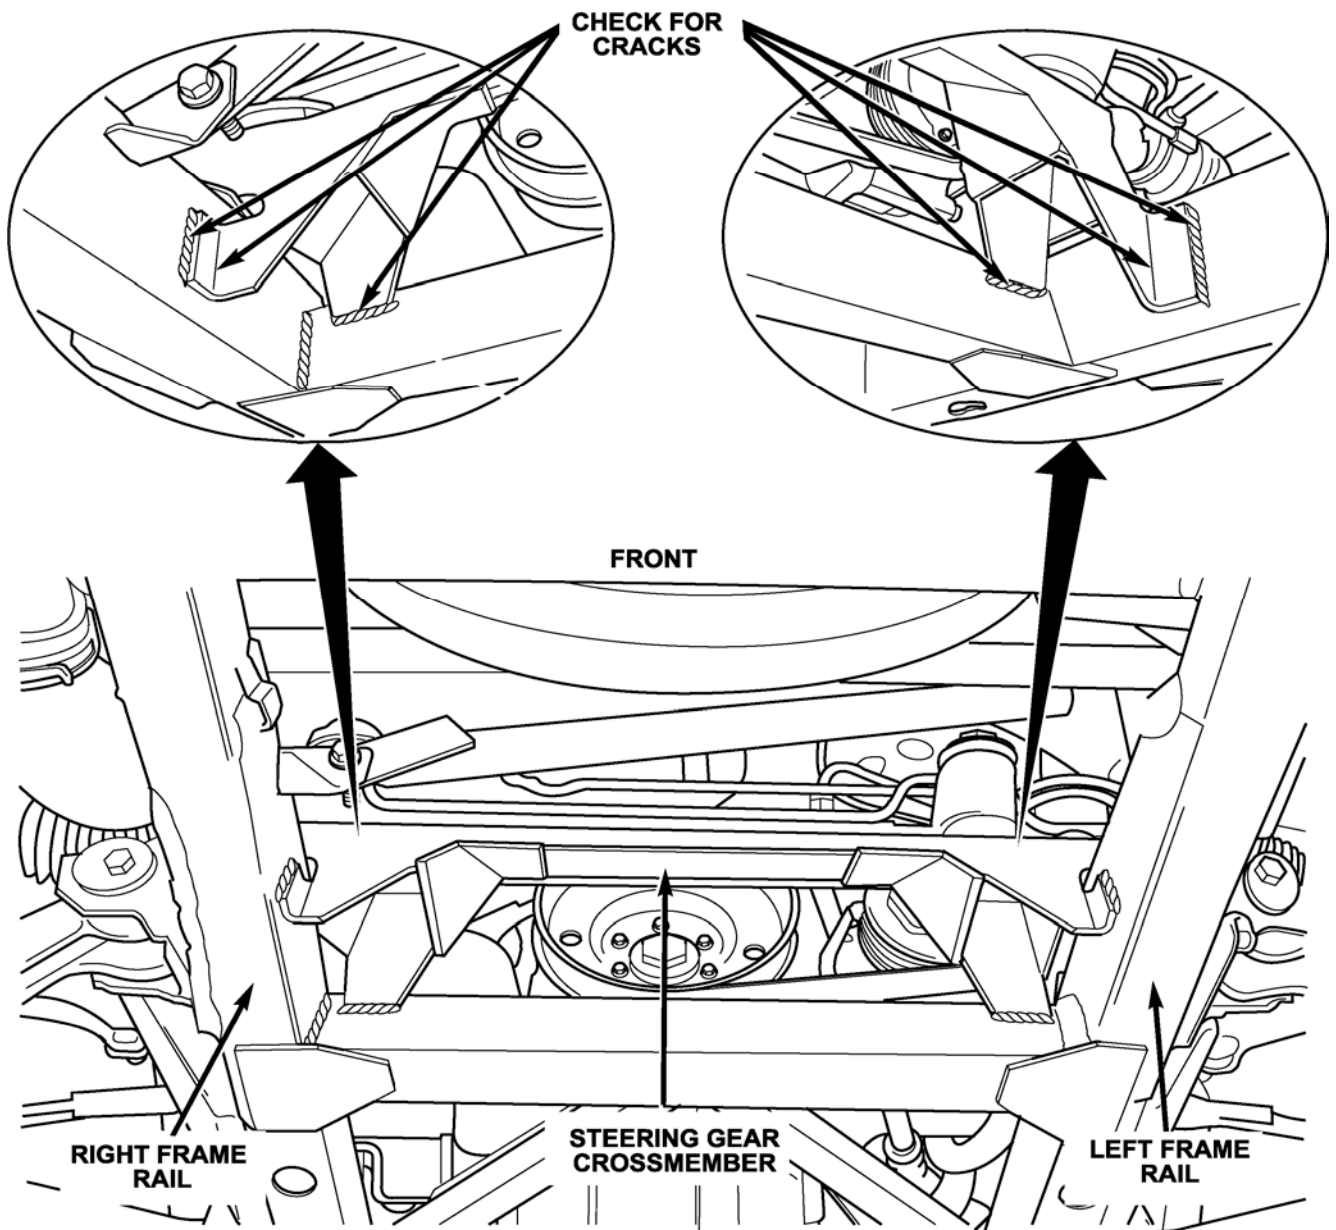

Figure 1 – Under-Car View
2. Inspect the steering gear crossmember-to-frame attachment for cracks in areas shown in Figure 1.